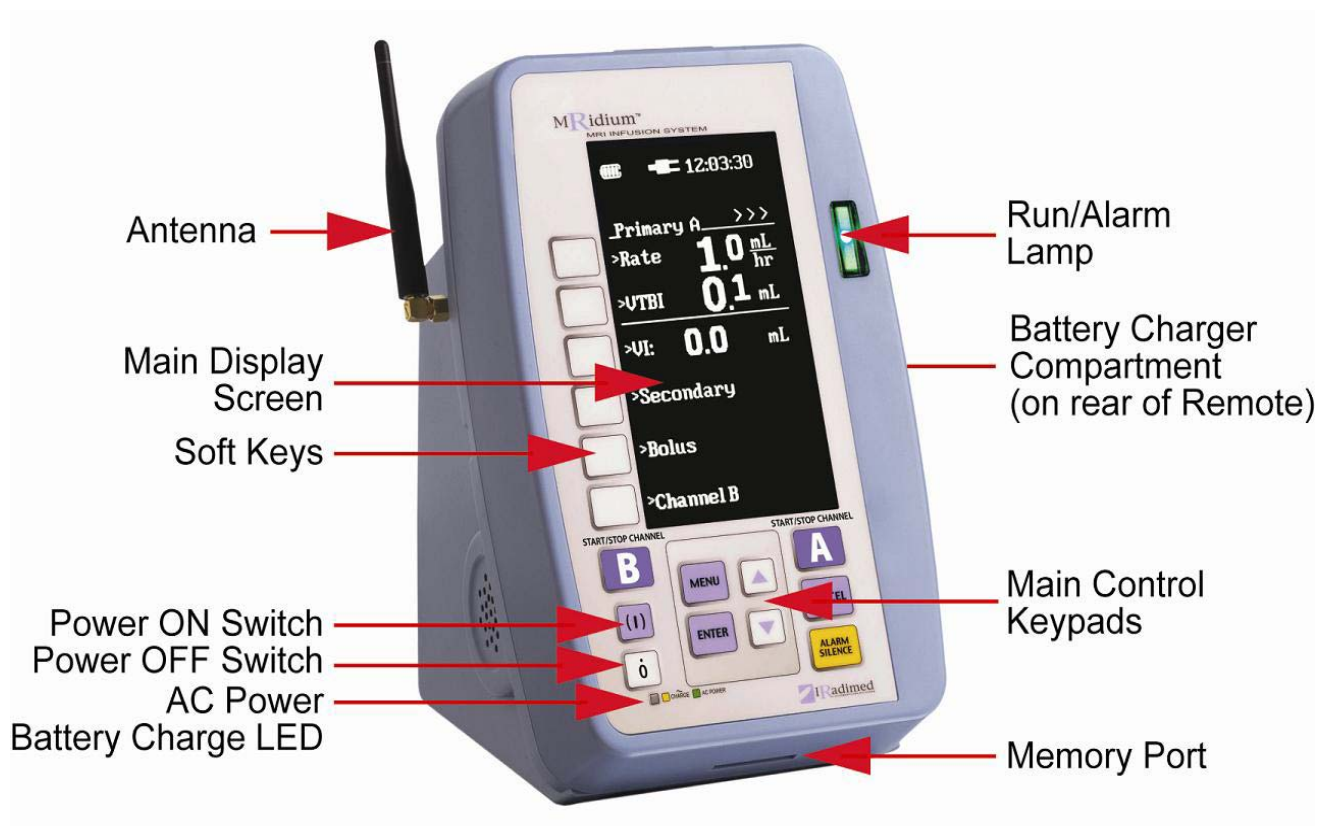

Figure 1-6. Front of 3855 Remote Display/Charger
1.1.5 Front of the Remote Display/Charger. See Figure 1-6 for the location of the major components on the front of the 3855 Remote Display/Charger.